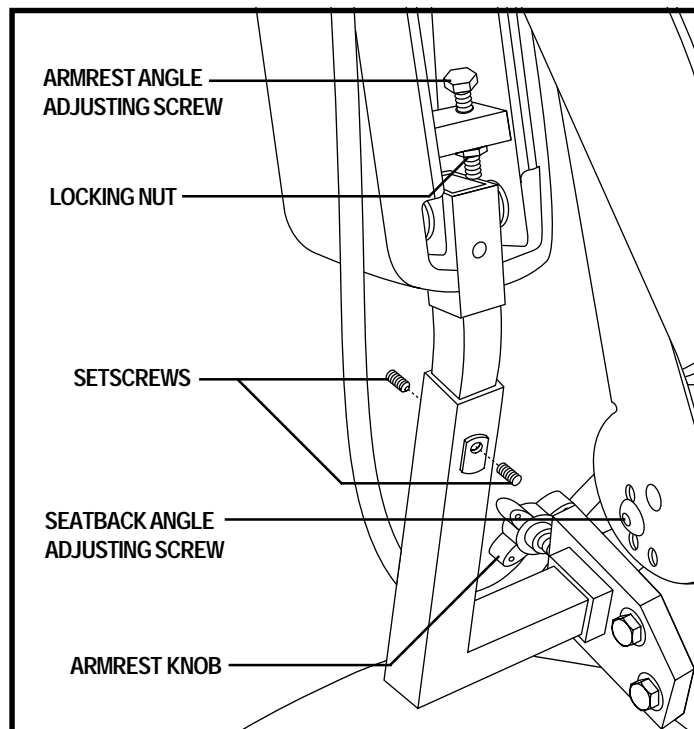

Figure 15. Armrest and Seatback Adjustments
1. Locate the two armrest knobs on each side of the armrest receiver bracket. See figure 15.
1. Lift the armrest straight up so that it is perpendicular to the floor. See figure 15.
1. Loosen the setscrews on the armrest. See figure 15.
1. Remove the adjusting screws from each seat hinge. See figure 15.